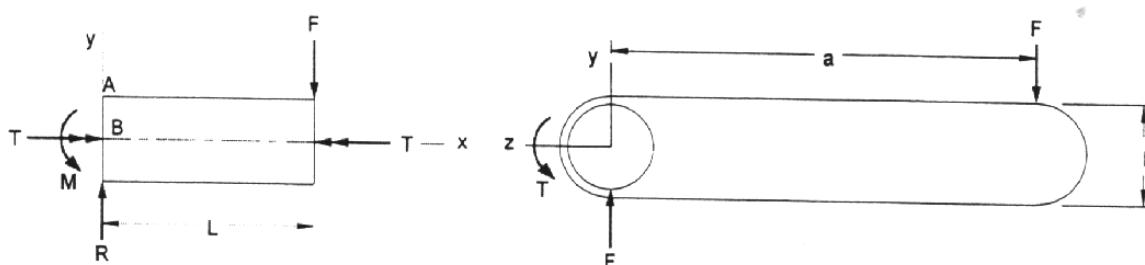

FIGURE 4-35
Solution: See Figure 4-35 and Mathcad file P0435a.
3. Determine the spring rate of the tube in torsion. Referring to Figure 4-35, the torque in the tube is